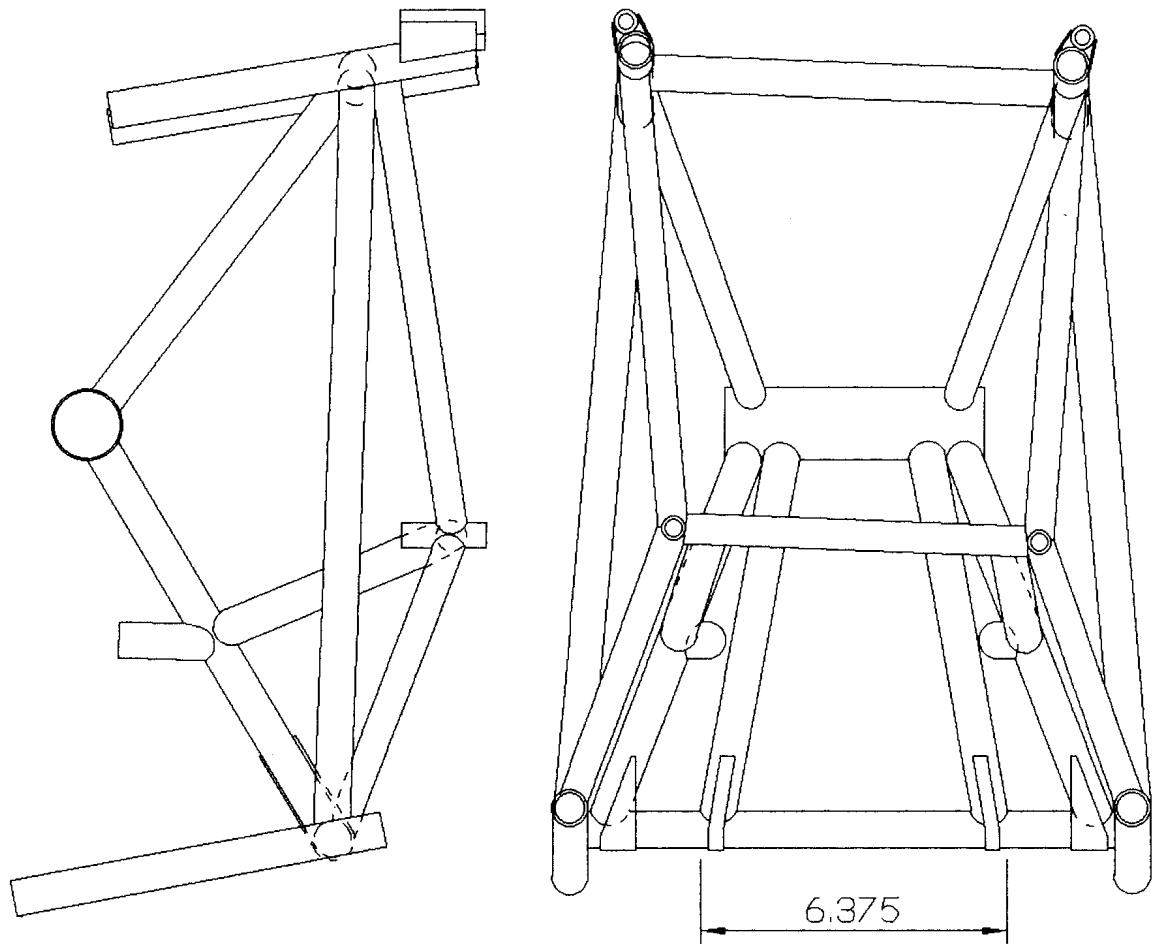

Fig 1. View showing positions for welding extra tubes.
6. Refer to figure 1, and remove the paint finish from the areas affected by the welding.